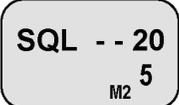

Figure 8
1. Push the "SQL" softkey, then rotate the tuning dial to desired squelch level (00 - 24). (See Figure 8)